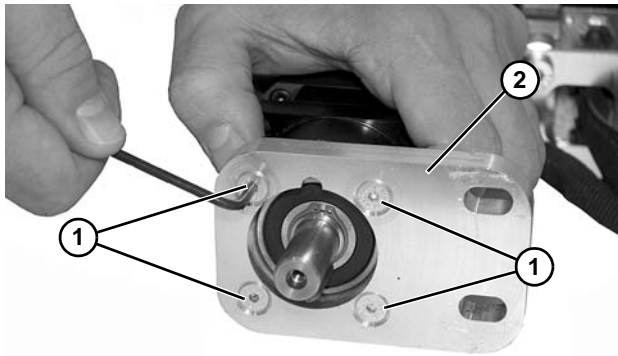

Figure 152
- Remove socket head screws (Figure 152, item 1) and remove headplate (Figure 152, item 2) from drive motor.